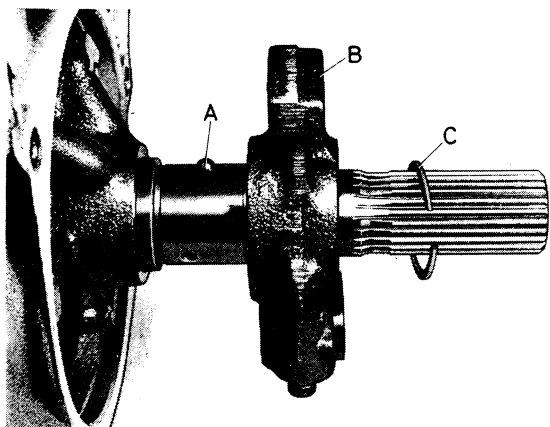

Fig. 4-93. Governor and driven shaft
6. Place the governor drive ball in the shaft as shown in Fig. 4-93. Fit the governor with the cover-plate facing the rear. Fit the snap ring.